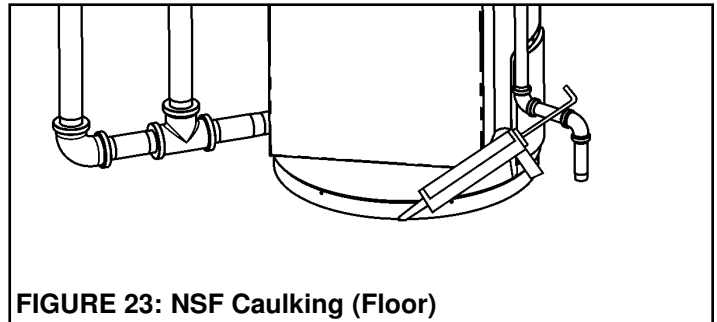

FIGURE 23: NSF Caulking (Floor)
5. If a drain pan is not installed seal the unit base to the floor with the sealant listed above. Be certain that there are no gaps or openings in the seal (See Figure 23).